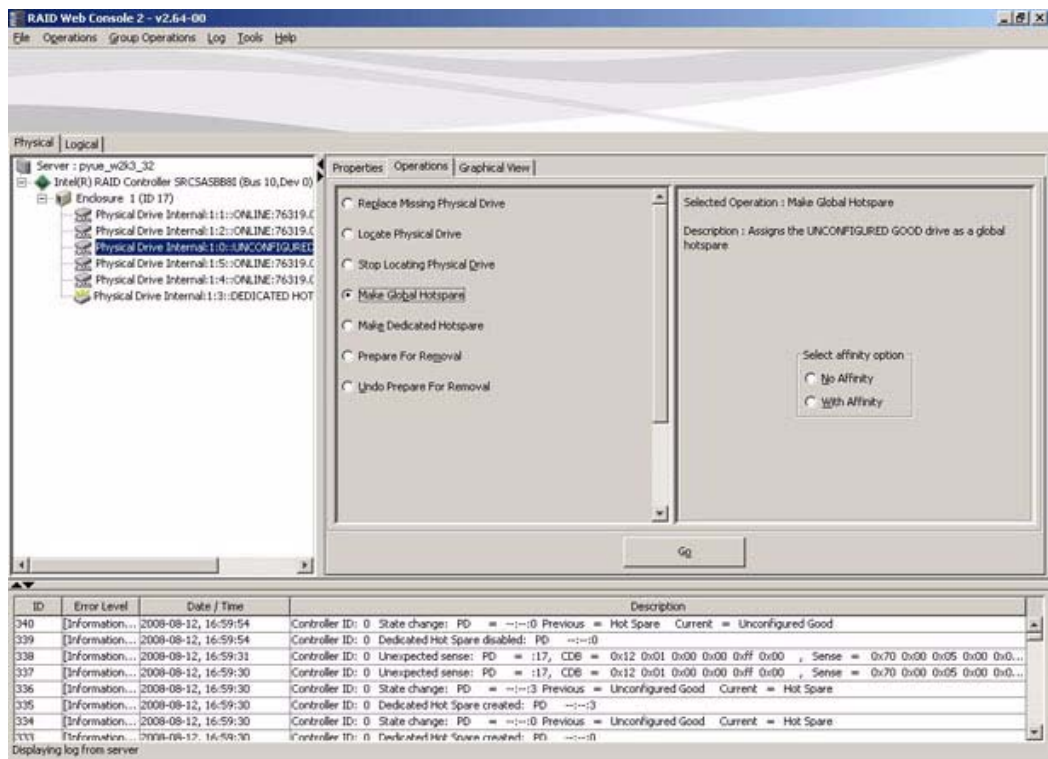

Figure 54. Make Global Hotspare
2. In the right panel, click the **Operations** tab and select **Make Global Hotspare**, as shown in Figure 54.